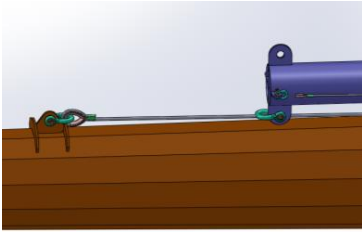

Figure 5.1
1. Take the 22.5m Ø24 Steel Rope and connect it to the tower with a 1-3/8 shackle. (See Figure 5.1)